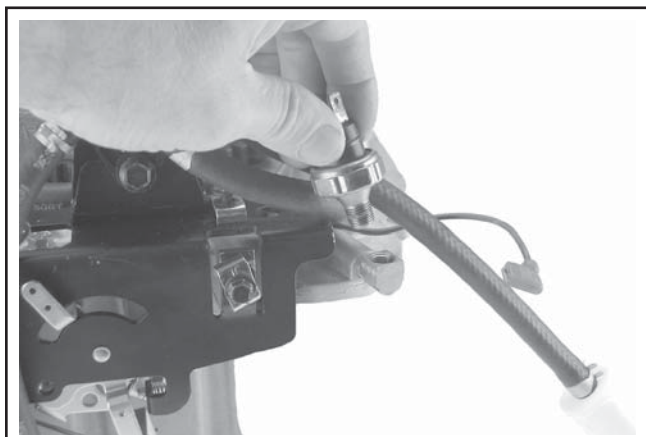

Figure 8-2. Removing Oil Sentry™ Switch.
2. Remove the pressure switch from the center passage or adapter elbow in the closure plate. See Figure 8-2.